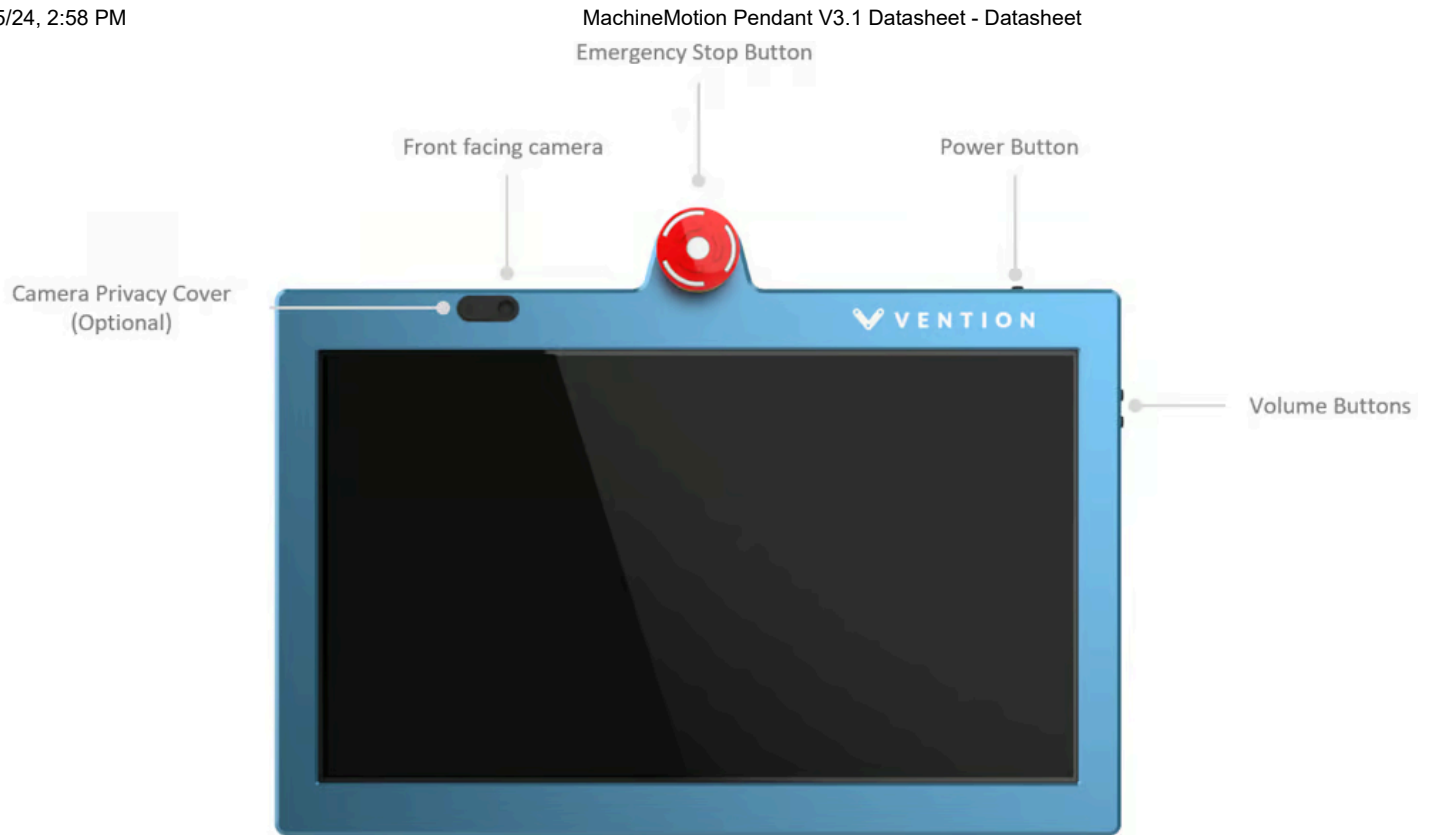

Figure 6: Pendant V3 Front
- The Pendant V3 includes 2 optional camera privacy covers (as shown in Figures 6 & 7) which can be installed by the user if required.